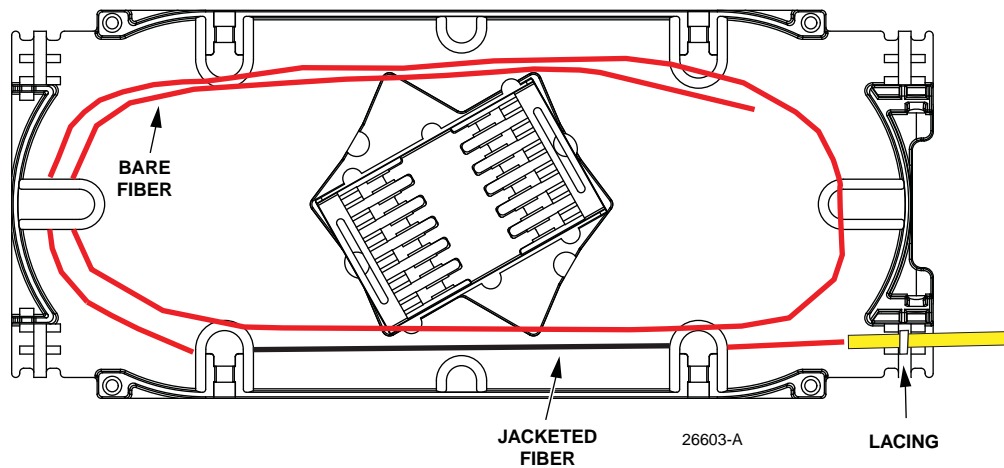

Figure 25. Mass Fusion Heat Shrink Splice Tray Cable Routing
- Route the fibers within the splice trays as shown in Figure 25 and Figure 25. The stranded fibers fill in 48 to a splice tray, The ribbon pigtails fill in 96 fibers per splice tray. Figure 25 shows the routing for stranded pigtails within the splice tray. Figure 25 shows the routing for ribbon pigtail.